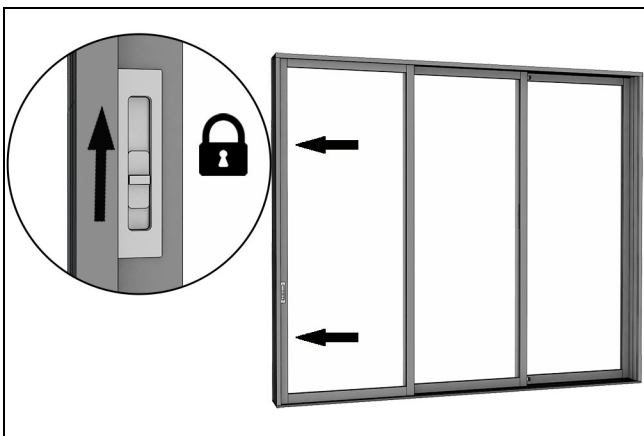

Figure 43
1. Close the door completely until the latch engages the strike. Slide the lock handle up to engage the multi-point lock. Once locked the sensor will align with the magnet and signal a closed and locked status. See Figure 43.